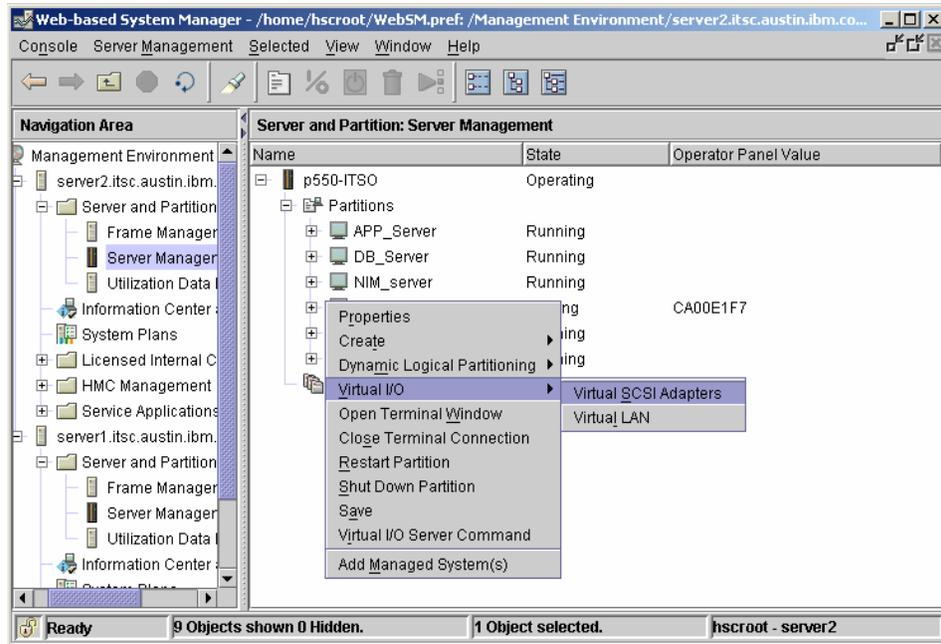

Figure 5-18 Virtual I/O topology view selection
- ▶ Right-click the Virtual I/O Server partition where you want to see the topologies. Select **Virtual I/O** → **Virtual SCSI adapter**, as shown in Figure 5-18.